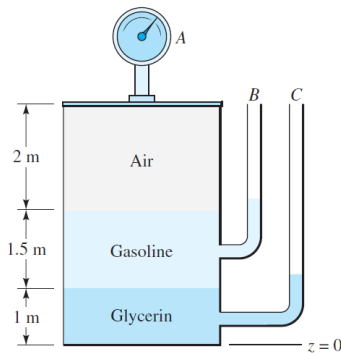

Fig. 2.6
- 2.6 In Fig. 2.6, pressure gage A reads 1.5 kPa (gage). The fluids are at 20°C . Determine the elevations z , in meters, of the liquid levels in the open piezometer tubes B and C .